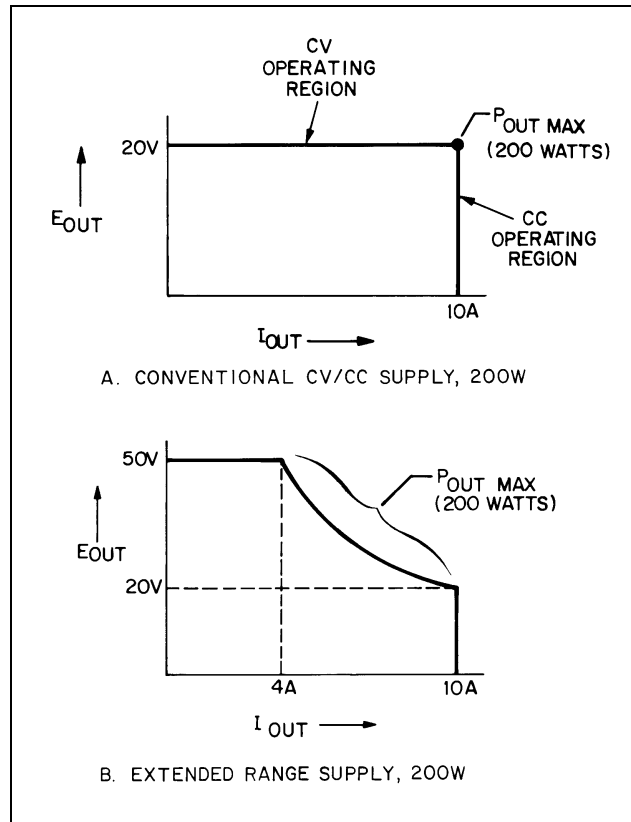
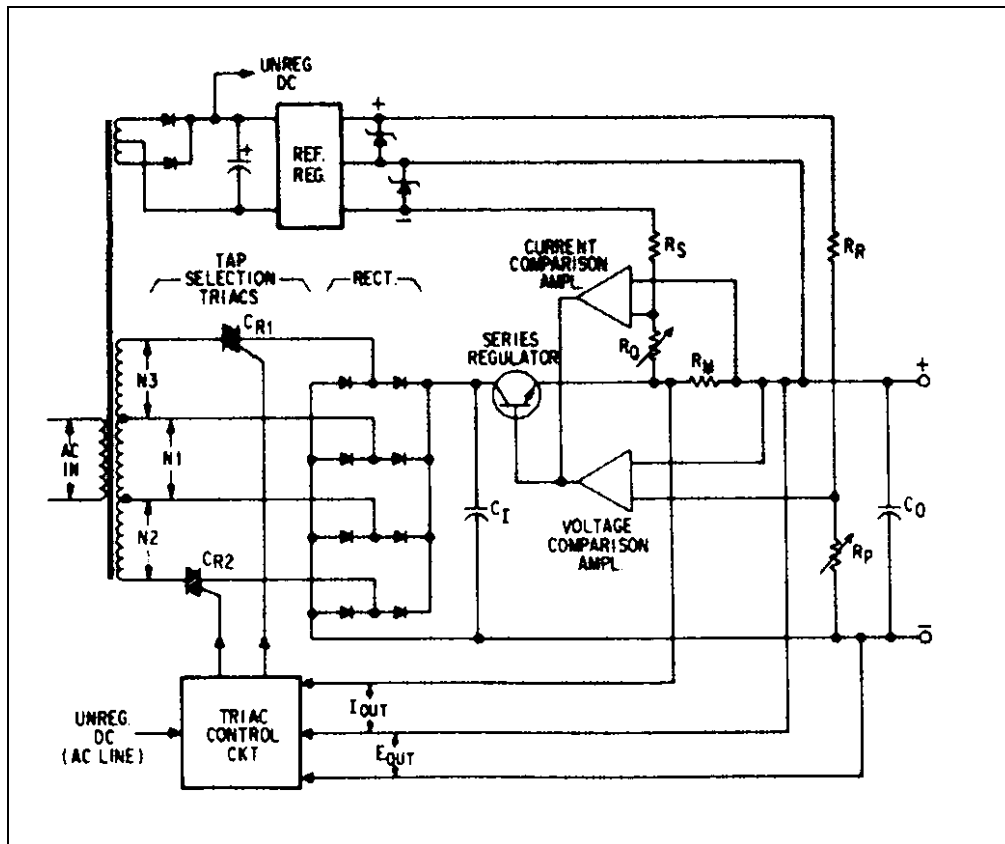

Figure 28. Output Characteristics of CV/CC Supplies, Conventional vs. Extended Range
Figure 29. Extended Range Power Supply Using Tap Switching
Figure 28 compares the output characteristic of a conventional CV/CC supply with that of an extended range supply of the same output power (200W in the example). As indicated in 28(A) maximum output power from a conventional supply can be obtained at only one point (20V/10A) on its rectangularly shaped locus. Maximum output power for an extended range supply, however, is available not only at 20V/10A, but at 50V/4A and anywhere along the curved portion of the characteristic ranging between 20 and 50V.
Agilent Technologies uses two different design techniques in their extended range power supplies. In one type, shown on Figure 29, extended range is achieved by adding a special tap switching network ahead of a standard CV/CC series regulated feedback loop. A more recent design, utilizes a regulator type whose output characteristic naturally assumes the shape of Figure 28(B), without the need for an electronic tap switching network. However, for convenience, only the extended range supply with the tap switching network is described in the following paragraphs.
The simplified schematic of Figure 29 shows that this supply consists basically of a CV/CC series regulator feedback loop preceded by an electronic tap switching network. Operation of the main series regulator loop is virtually identical to many other supplies developed by Agilent Technologies. The tap switching circuits, however relate only to extended range supplies and it is these circuits that govern the overall output characteristic of Figure 28(B).
Electronic Tap Switching. As shown on Figure 29, tap switching is accomplished by a pair of triac switches (CR1 and CR2) and an associated control circuit. By selecting different triac firing combinations, these circuits allow the input capacitor (CI) to charge to one of four discrete voltage levels, depending on the output voltage and current required.
The extended range power supply overcomes the latter problem through the use of series regulating transistors with higher voltage ratings and with thermally improved heat sinks. The heat sinks allow the series transistors to be properly cooled during the worst case conditions that are encountered during rapid down-programming. In addition, a special transistor circuit (not shown on Figure 29) provides for a more rapid discharge of the output capacitor during down-programming.